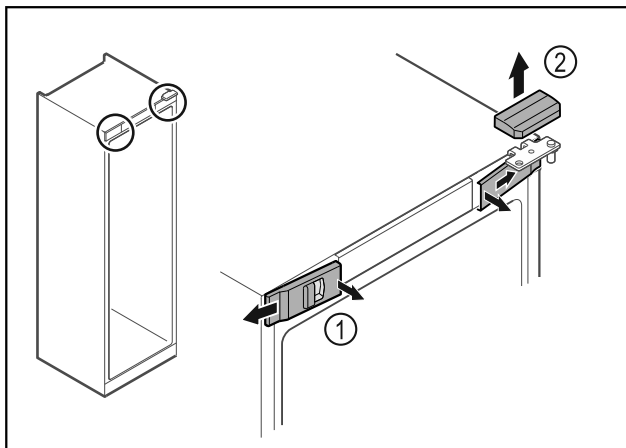

Fig. 7*
- Unlatch the front covers Fig. 7 (1) on the inside and remove them sideways.*
- Lift off the upper cover Fig. 7 (2).*